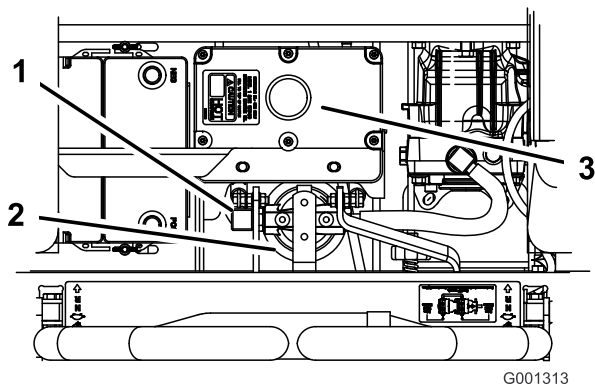

Figure 88
4. Remove the right hydraulic line that comes into the adapter (Figure 88).
6. Install the right hydraulic line to the adapter (Figure 88).